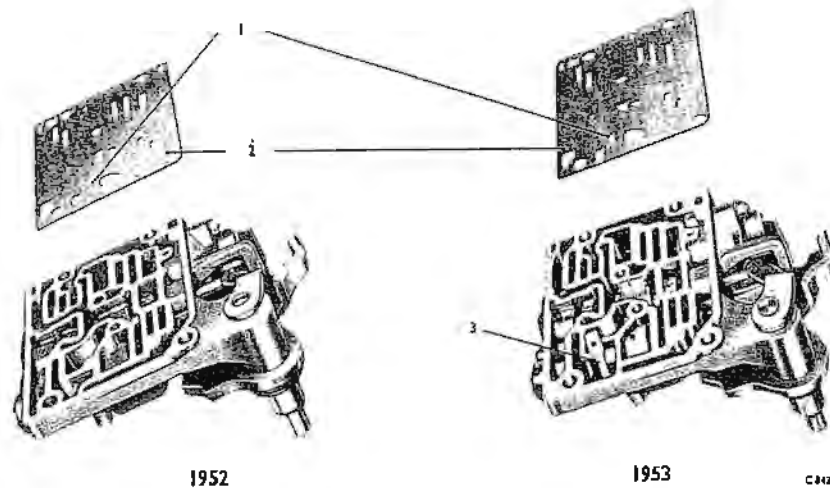

Fig. 54 Outer bodies, oil guide plates and by-pass valve
Remove the spring steel by-pass valve (43) from the outer body, noting its position to assist re-assembly. This valve is fitted on '1953' control valve units but not the '1952' type (see Fig. 54).
Fit the by-pass valve (43) to the cavity in the outer body (not '1952' model). Figure 54 shows the differences between the two models.